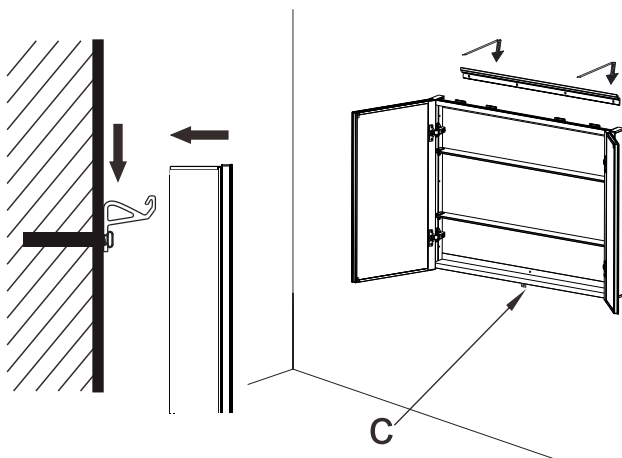

Fig.6
- 2.4 Install the mirror cabinet on the hanging strip, see details in Fig.6. Choose right locating place and use pencil to make sign on the wall through the base fixing the hole (Fig.6-c).
- 2.6 Repeat the operation as shown in Fig.6 and mount the mirror cabinet to the bar.